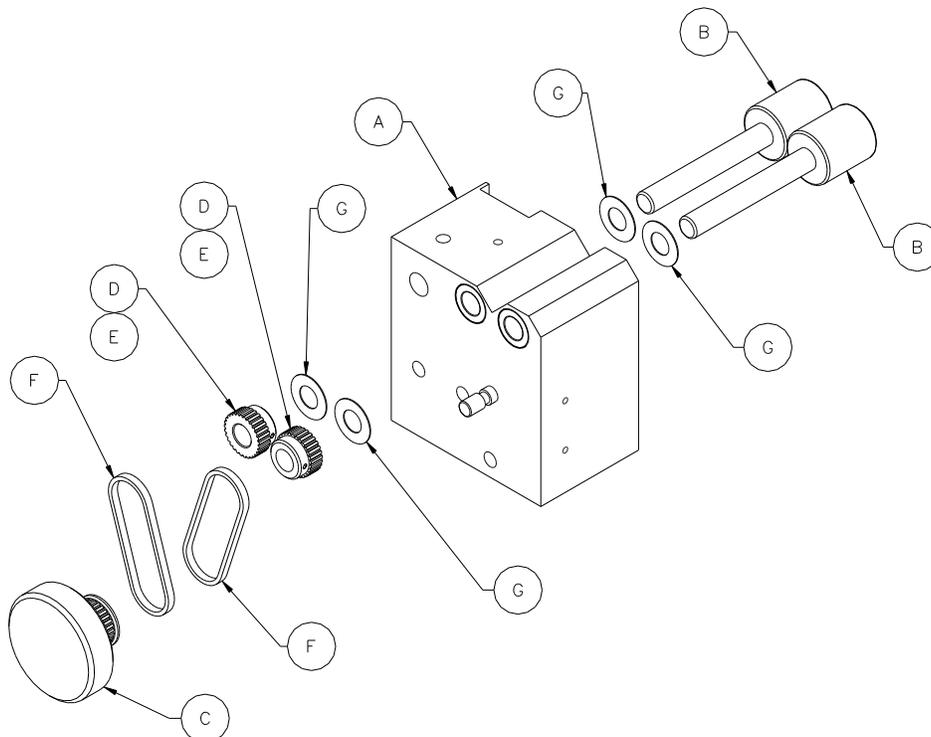

Figure 18. Main Roller / Main Block Assembly
13.0 Main Roller Replacement – (See Figure 18)
The Main Rollers on the Concentricity Gage may be replaced if they are worn, scratched or have been in use for a long period of time. Figure 18 shows a typical Main Block / Main Roller assembly. The following steps shall be followed to remove and replace any Main Roller: